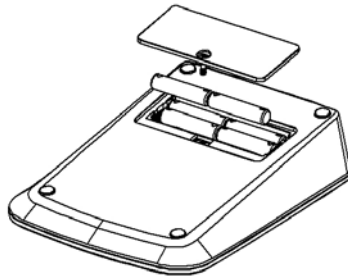

Figure 1: Battery compartment
1. Use a Phillips screw driver and unlock the battery cover by turning the screw driver in the counter clockwise direction. After unlocking the screw, take off the battery cover (Fig.1)